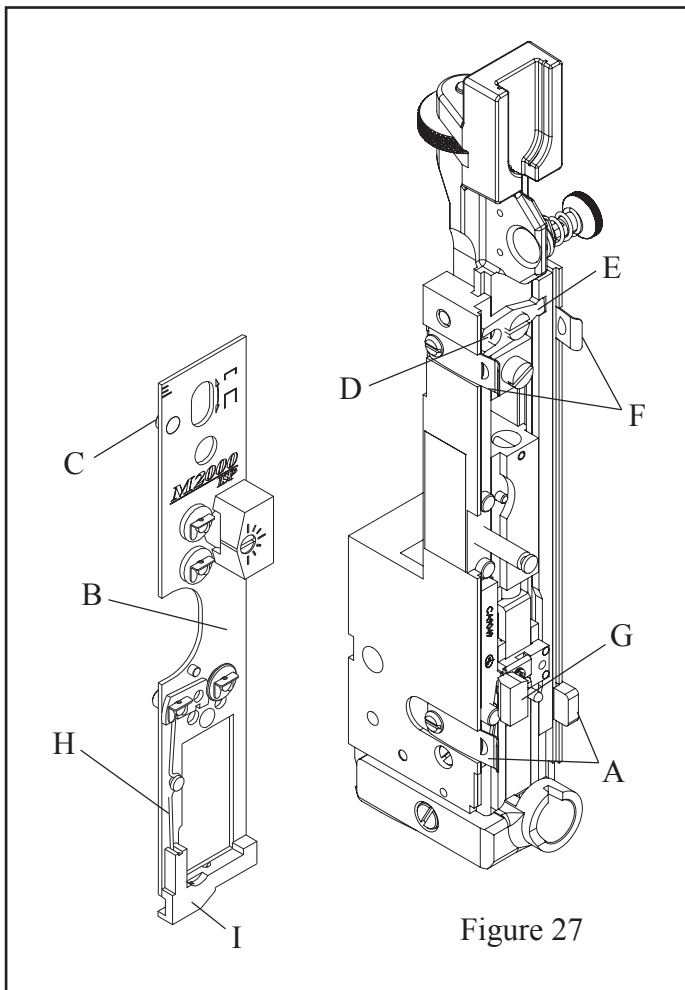

Figure 27
## **NOTE: (Figure 27)**
7. Loosen the two face plate retaining clips (Index A, Figure 27) and rotate them downward.
11. Remove the cutter operating slide (Index I, Figure 27).